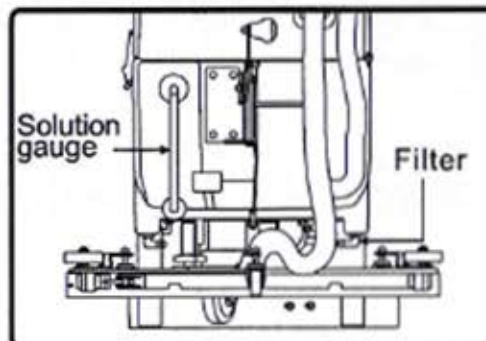

fig.13 (Back)
- If the machine will not be used for long time or will be stored or in transit under the temperature below 4°C, take out all solution gauge to drain all the solution water in the solution tank, in order to prevent solution from changing state. After this, take out the filter lid, and then press the sprinkling button to drain all the solution stayed in the sprinkling system and clean the filter if necessary. Otherwise, the sprinkling motor, the solenoid valve, or the hoses will be damaged because of frozen water in the sprinkling system(fig.13&14).